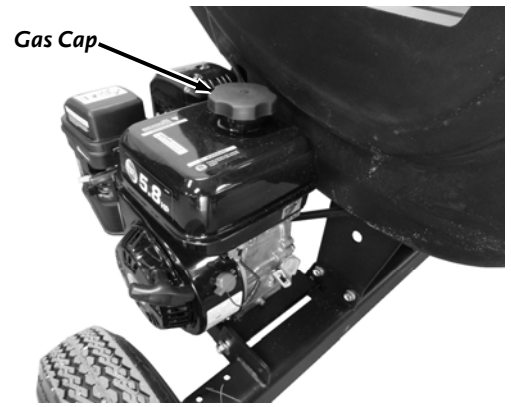

Figure 14
6. Remove the Gas Fill Cap and fill the Gas Tank with fresh, unleaded gas (with a minimum of 85 Octane) to approximately 1" to 1-1/2" below the top of the fill neck to allow for fuel expansion (**Figure 14**). Be careful not to overfill. Install the Gas Fill Cap before starting the engine. See your Engine Owner's Manual for more detailed information.